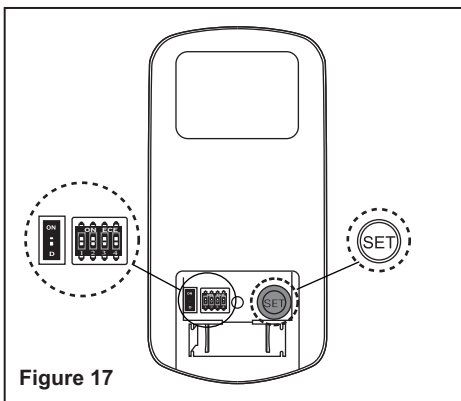

Figure 17
☾ button: Controls light. Switch the “D” and “ON” dip switch on the back of transmitter to decide the light in “ON/OFF” or “Dimmable” condition. (Fig. 17)
a) Select desired frequency from the transmitter. The dip switches can be set to 16 different combinations. (Fig. 17)
b) From the back of the transmitter, with the fan’s power off, restore power to the fan. Press and hold “SET” button for about 5 seconds and release. If optional light kit is installed, the light kit will flash twice and the signal light on the hand held transmitter will come on when the button is pressed. The fan has completed the pairing process with the remote control and is ready for use. (Fig. 17)